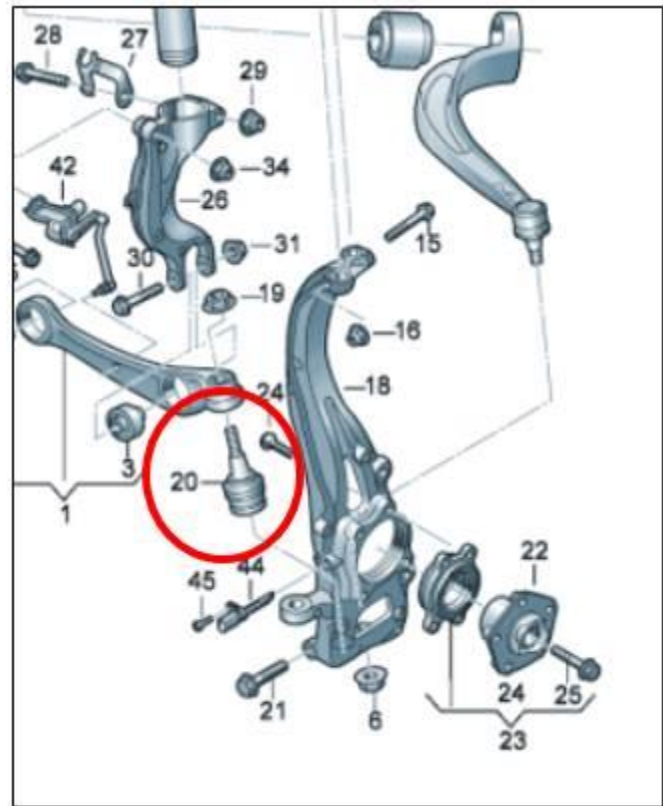

Figure 1. Swivel (ball joint).
- The noises can be assigned to the swivel joint (ball joint) of the left or right front axle (Figure 1, pos. 20).
Make sure that the new parts you are installing have production date week 36/19 or later (Figure 1 and 2, green circles).